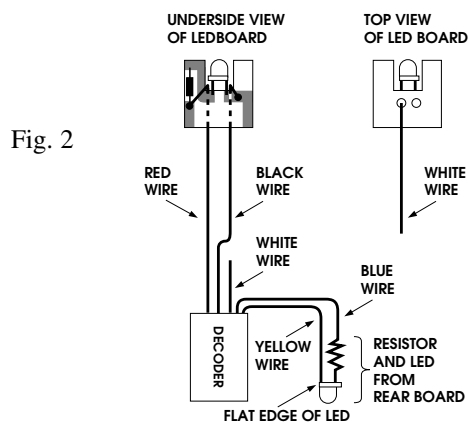

Fig. 2
- Attach the BLACK and RED wires as shown (Fig. 2). Solder WHITE wire to front light board as shown (Fig. 2).
- Remove the LED and resistor from the rear board and solder to YELLOW wire as shown (Fig. 2).